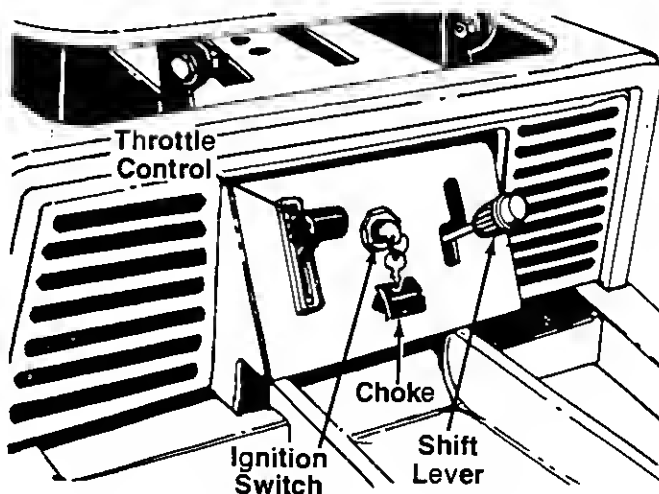

FIGURE 12.
The throttle control is used to regulate the engine speed. The engine should be operated at full throttle when operating the cutting deck. See figure 12.
The choke control is located on the console and is operated manually. Details for the choke operation are covered in the separate engine manual packed with your unit. See figure 12.
The key must be turned to the START position to start the engine. After the engine is running, let the key return to the ON position. Turn the key to the OFF position to stop the engine. Remove the key when the rider is not in use. See figure 12.
The shift lever is located on the left hand side of the console and has three positions, FORWARD, NEUTRAL and REVERSE. See figure 12. The clutch-brake pedal must be depressed and the riding mower must not be moving when shifting gears. Do not force the shift lever. Release the clutch-brake pedal slightly to line up the shifting collar in the transmission. Then try to shift gears.
6. Turn the ignition key to the START position. As soon as the engine starts, let the key return to the ON position. See figure 12.